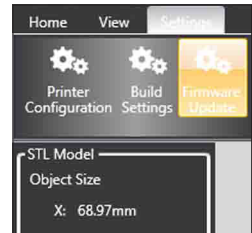

Fig. 118
- Navigate to the settings tab to the CubeX software and press the Firmware update button. (Fig. 118)